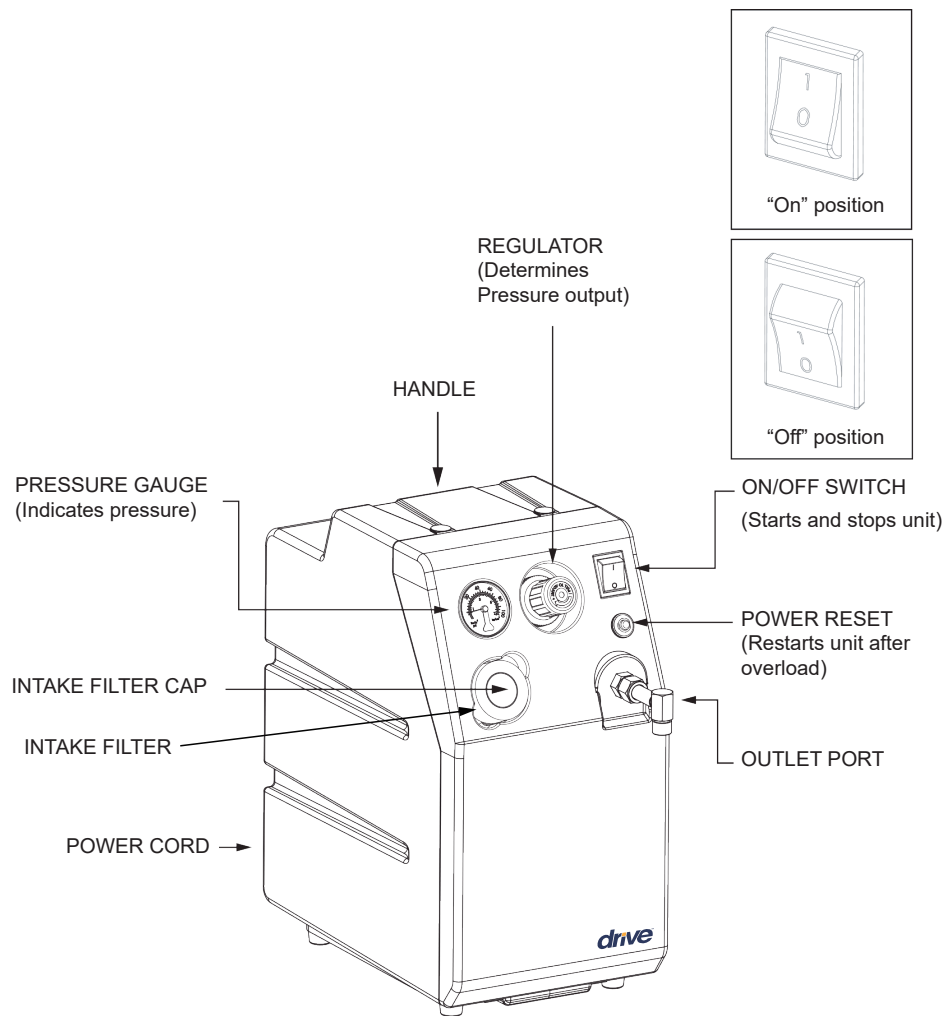

FIGURE 1
3. Make certain that the power switch located in the center of the control panel is in the OFF position (Figure 1) and plug power cord into grounded power outlet or grounded adapter.
1. Press Power On/Off switch to ON position (figure 1).
2. Connect the equipment you intend to use with the Drive Medical Model 18450 compressor and then adjust the pressure that the unit is delivering by adjusting the regulator (figure 1) as follows: